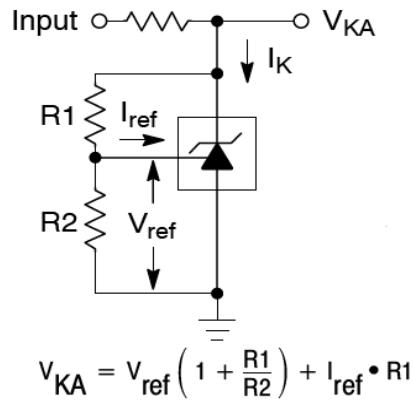

Figure 2: $V_{KA} > V_{REF}$
* When the device operating with two external resistors, R1 and R2, (refer to Figure 2) the total dynamic impedance of